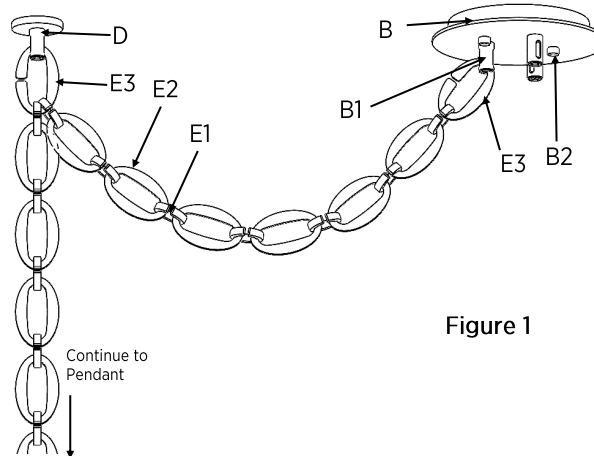

Figure 1
Step 3: Using the E-Z Toggle bolts (D1) (see E-Z Toggle Instructions on the next page) included in the Hardware pack (A), install E-Z Toggle bolts (D1) radially around the Canopy (B) using a measuring tape to achieve the desired distance. **Note:** Toggle bolt location determines pendant location.
Step 5: Starting from the Open Chain Link (E3) attached to the mini canopy (D2) Assemble the chain by interlocking alternating Flat Chain Links (E2) and Ring Chain Links (E1) (See Figure 1 for example) until desired overall height for pendant is achieved. Then, starting from the Open Chain Link (E3) attached to the mini canopy (D2) once more, assemble the chain towards the main canopy until the distance between the main canopy and the mini canopy is covered.